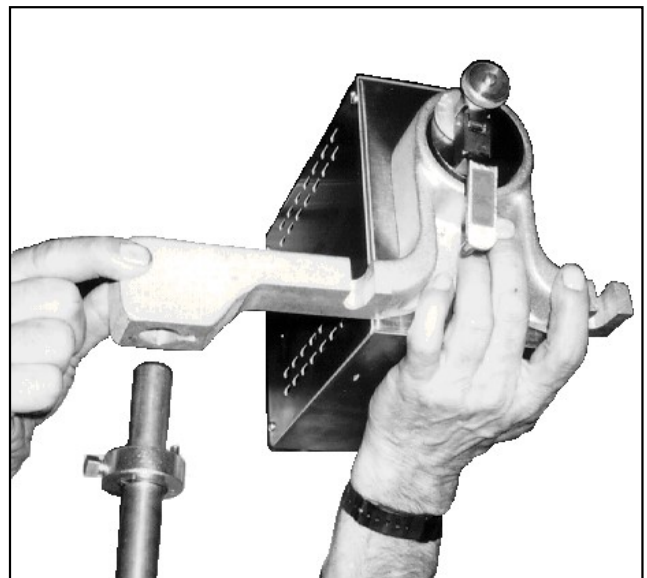

Figure 1-5. Mounting the Cutter Head Assembly.
1. Set the cutter head assembly onto the swing column. See Figure 1-5.